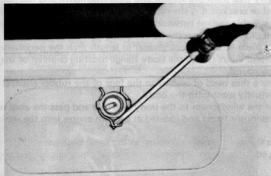

Fig. 12.22. Removing the luggage compartment lock barrel (Sec. 17)
- 3 The lock cylinder can now be removed by prising off the spring clip, as shown in Fig. 12.22.